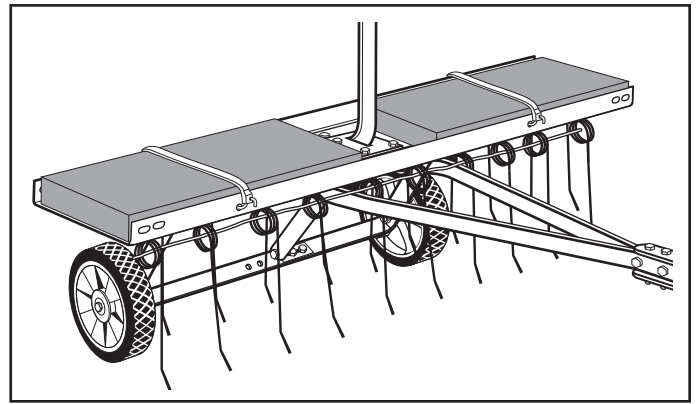

FIGURE 8
- If the dethatcher appears to be "jumping" during use, then extra weight should be added to the tine shield. In most conditions extra weight will be needed. Concrete patio blocks are recommended for weight because of their low profile; however any type of weight is suitable if it can be tied down to the shield. Secure weight by using suitable binding material such as rubber tie down straps or wire, fastening to the holes in the shield flange. See figure 8.